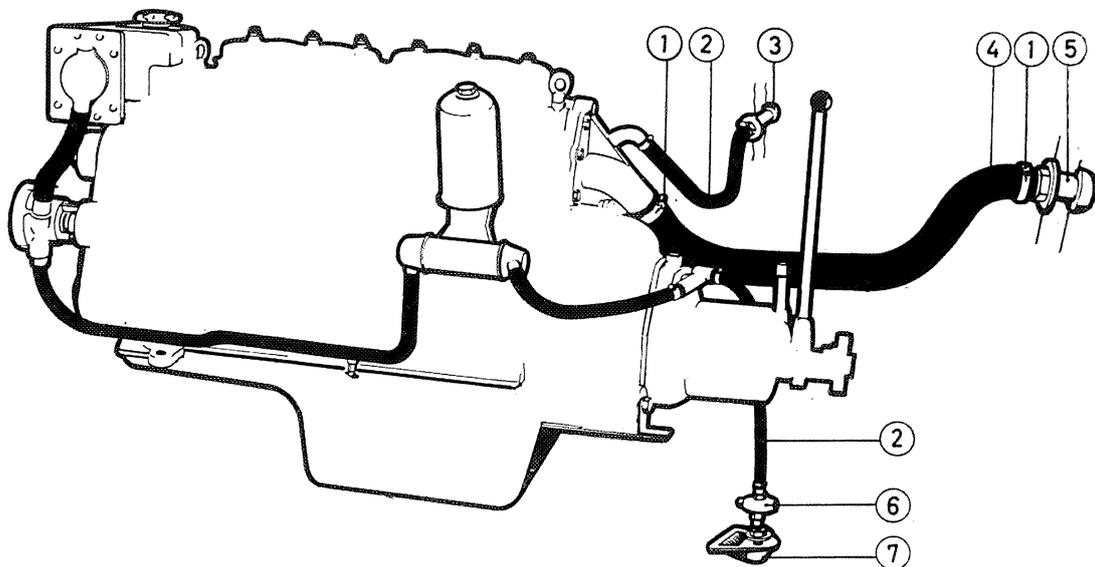

Fig. 28. Suggestion for exhaust and cooling water installation
The engine is as standard fitted with a water-cooled exhaust bend in which part of the outgoing cooling water is mixed with the exhaust gases so that the exhaust line is cooled very efficiently. Therefore the exhaust lines, to advantage, can be made of so called industrial rubber hose with an inner diameter of 57 mm ( $2\frac{1}{4}$ " in accordance with Fig. 28. The outlet of the exhaust line (5) should be located lower than the engine exhaust manifold. Special attention should be paid to ensure that the exhaust outlet is located in such a height position that the water cannot penetrate into the line even when the boat is rolling heavily. This means that at certain installations the exhaust line should be made with an extra upward bend (so called riser) at the through-hull fitting.
Part of the outgoing cooling water passes through the exhaust line in order to cool this, and part is led overboard, see Fig. 28 and 16.